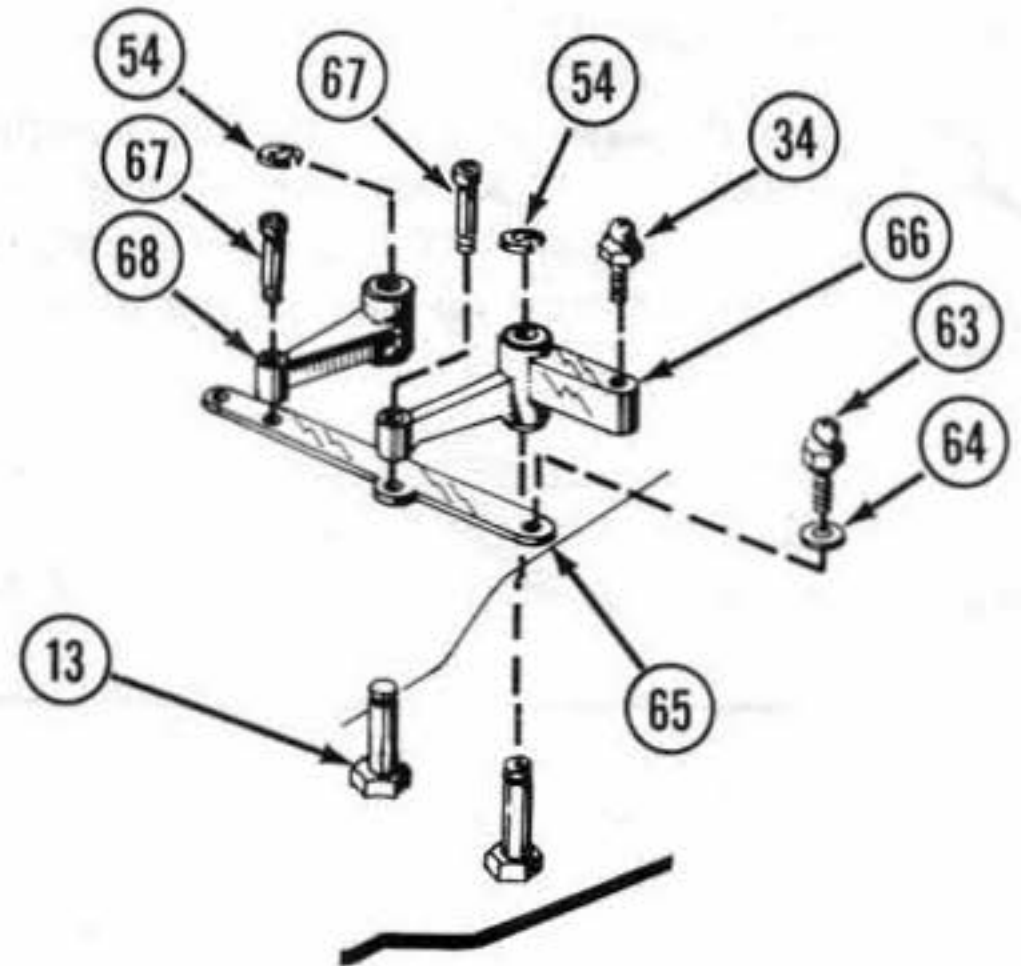

FIG. 27
2. Attach one 3/16" studded ball joint (63) and studded ball washers (64) in both ends of steering sector arm (65) as shown. Fig.27
3. Install the 3/8" studded ball (34) into the smallest hole on the servo saver (66). Attach the servo saver (66) to the steering sector arm (65) using a 4-40 X 1/8" shoulder screw (67). *NOTE: shoulder screw should turn freely in servo saver. Fig.27
4. Attach the idler arm (68) to the remaining hole on the steering sector arm (65) using a 4-40 X 1/8" shoulder screw (67). Fig.27
5. Slide servo saver (66), idler arm (68), and steering assembly, down onto steering posts (13) and secure with two 3/16" E-clips (54). Fig.27